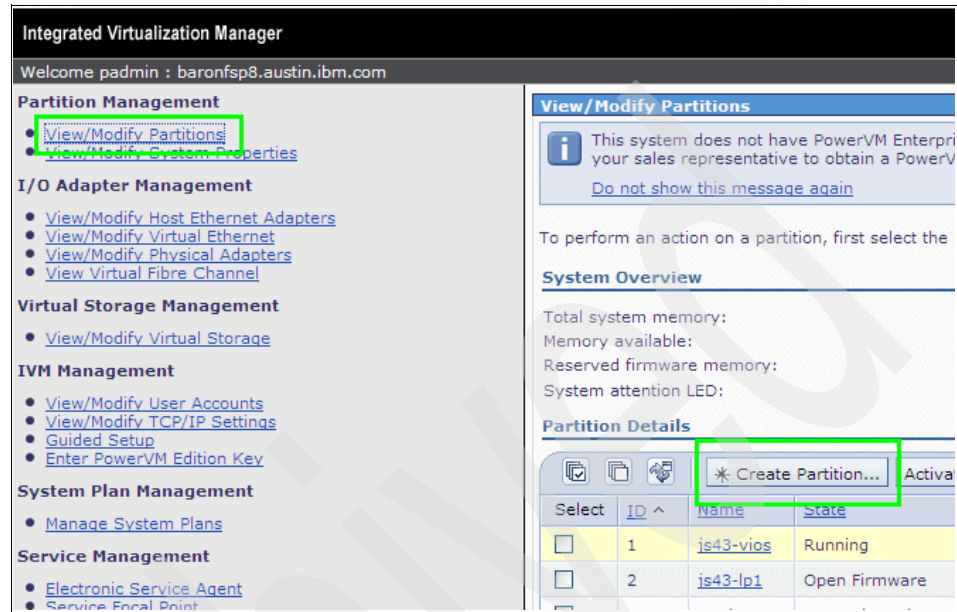

Figure 7-21 View Modify Partitions - Create Partition option
1. Click **View/Modify Partitions** to display the panel, as shown in Figure 7-21.